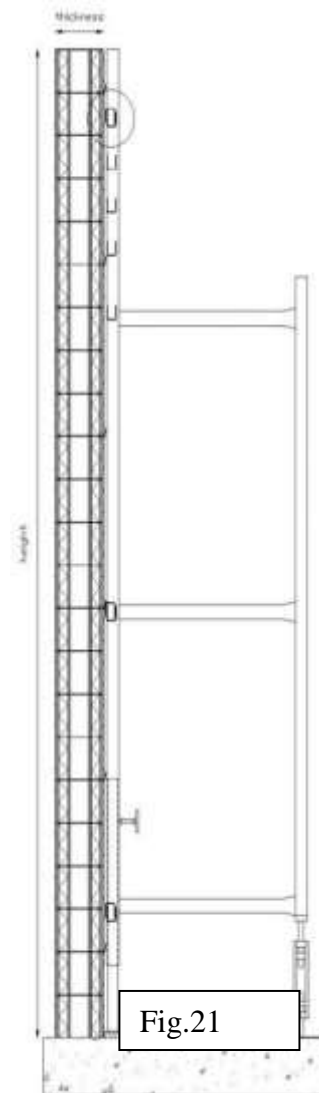

Fig. 22 & Fig. 23 Floor props supporting beams and shuttering board Placing of reinforcement
- The floor modules shall be temporarily, till hardening of the concrete, be supported by shuttering panels, beams and props (Figs. 22 & 23). When props are only calculated for supporting the weight of fresh concrete, circulation and curing platform shall be used.